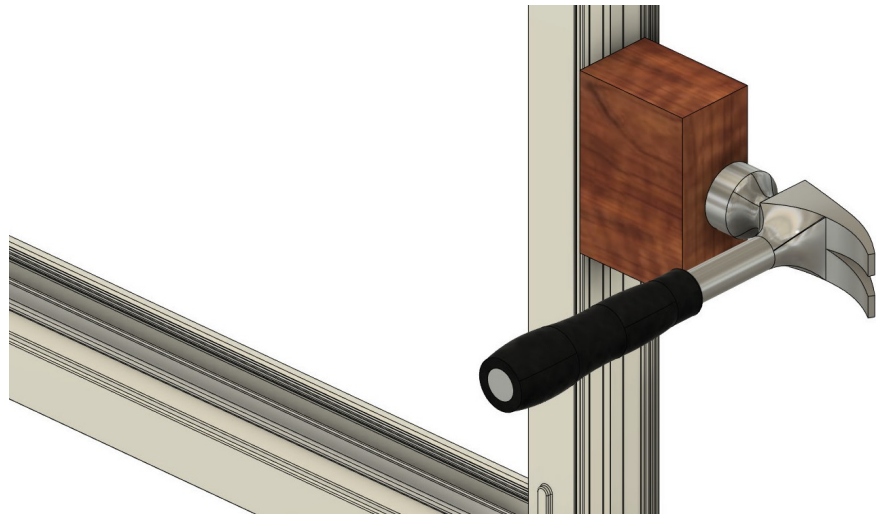
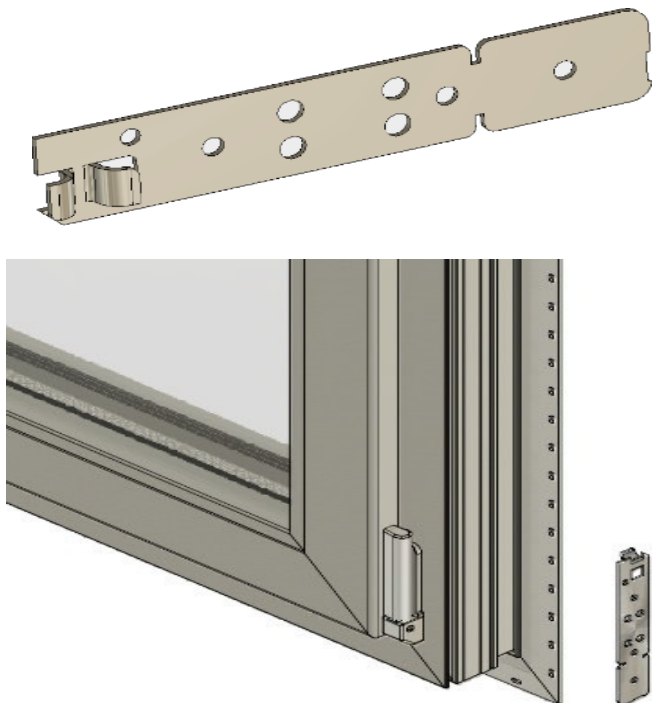

Figure 21
Figure 22
2. Inspect glazed units for bowing. If bowing is found it can be removed with a block of wood and a hammer (Figure 21). (Bowling is typically caused by lifting by or setting on an unsuitable location of the frame).
1. Anchor straps are first installed 150mm (6") from each corner. The anchor straps are installed by inserting them into the groove parallel to the frame and turning 90°. See Figure 22.
3. Once the sill is level, add additional shims under each mullion (Figure 21), under each jamb, at any coupling (Figure 22), or as needed for additional support for very large windows and doors. Ensure the sill is not bowed either up or down.
Ensure there is no bowing in either plane. Unglazed frames can have bowing removed by adding shims or adjusting anchor straps. Glazed frames can have the bowing removed as described under “Inspection” (Figure 21).